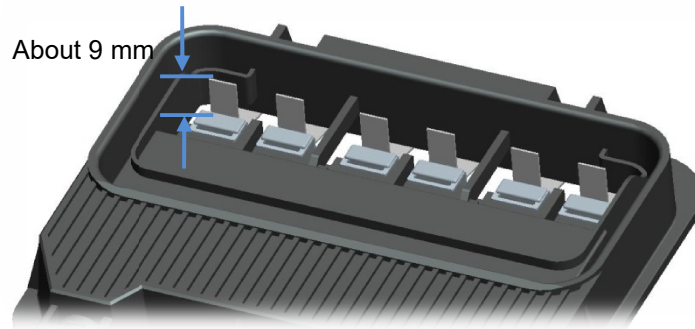
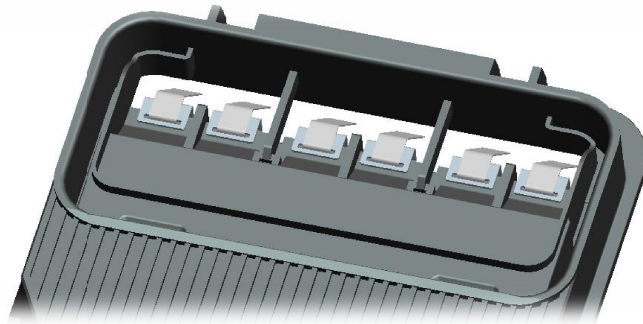

Figure 5
Figure 6
- Type 1: Reference length of the PV ribbon is 9mm from the conductive contact as shown in Figure 5. Bend the PV ribbons and insert them through the correlated contact slots, see Figure 6.